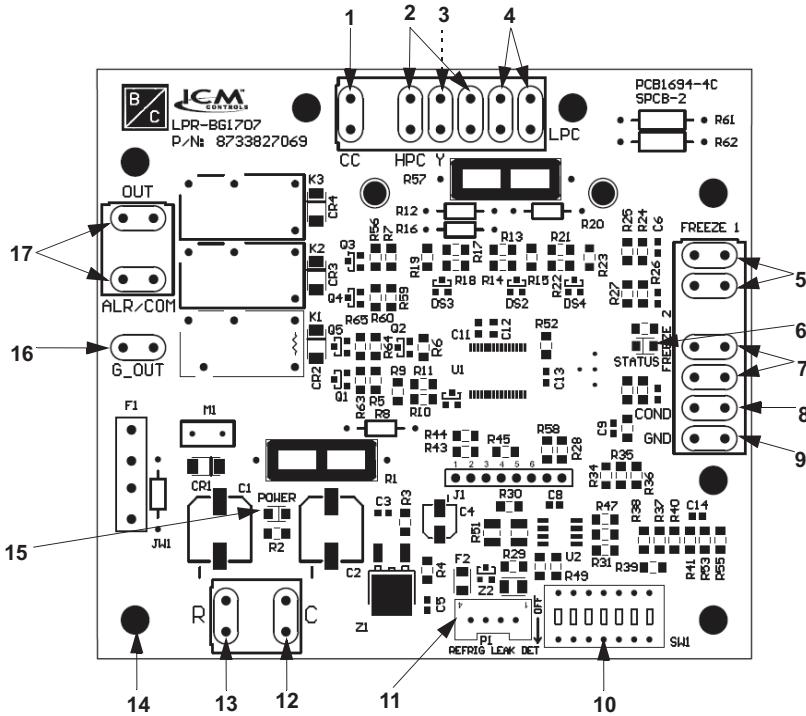
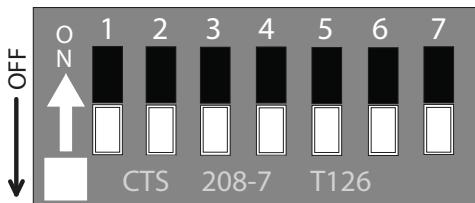

Fig. 21 — Unit Protection Module (UPM)
Fig. 24 – UPM Settings DIP Switch (SW1)
The Unit Protection Module (UPM) as shown in Fig. 21 is a printed circuit board (PCB) included in all units, that interfaces with the thermostat or the digital direct controller.
If temperature drops below or remains at freeze limit trip for 120 seconds, the controller will shut down the compressor and enter into a soft-lockout condition. The default freeze limit trip is 25°F; however, this can be changed to 15°F by flipping DIP switch SW1 (see Fig. 21, Item 10, Fig. 24, and Table 11).
The condensate overflow protection sensor is located in the drain pan of the unit and connected to the “COND” terminal on the UPM board (see Fig. 21, item 8).
If a fault condition is initiated, the five minute delay on break time period is initiated and the unit will restart after these delays expire. During this period the fault LED will indicate the cause of the fault. If the fault condition still exists or occurs two or four times (depending on “2” or “4” settings for Lockout DIP Switch) before 60 minutes, the unit will go into a hard lockout and requires a manual lockout reset. See Fig. 24.